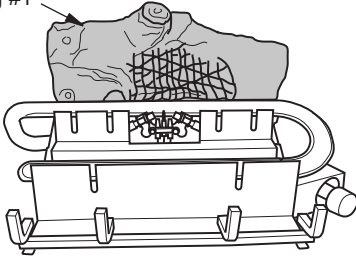

Figure 19 - Installing Log #1
1. Place log #1 onto rear grate bracket (see Figure 19).